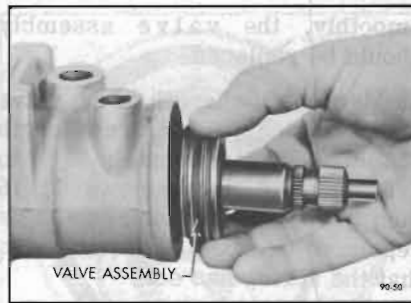
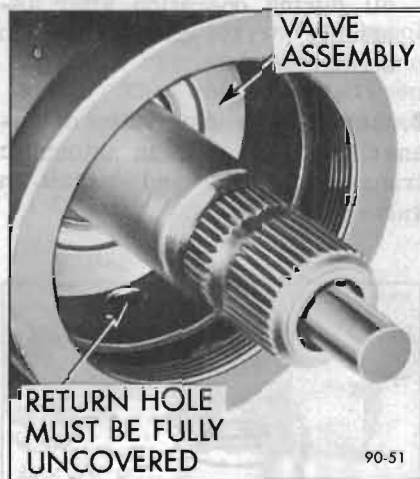

Figure 90-45—Inserting Valve Assembly in Housing
Figure 90-46—Valve Assembly Installed in Housing
drive pin on the worm. Insert the valve assembly into the gear housing by pressing against the valve body with the finger tips. Do not press on stub shaft or torsion bar. See Figure 90-45. The return hole in the gear housing should be fully visible when valve is assembled properly. See Figure 90-46.
2. Insert the valve assembly and worm in gear housing as an integral unit. Do not press on stub shaft or torsion bar. See Figure 90-45. Return hole in housing should be fully visible when valve and worm are properly installed. See Figure 90-46.